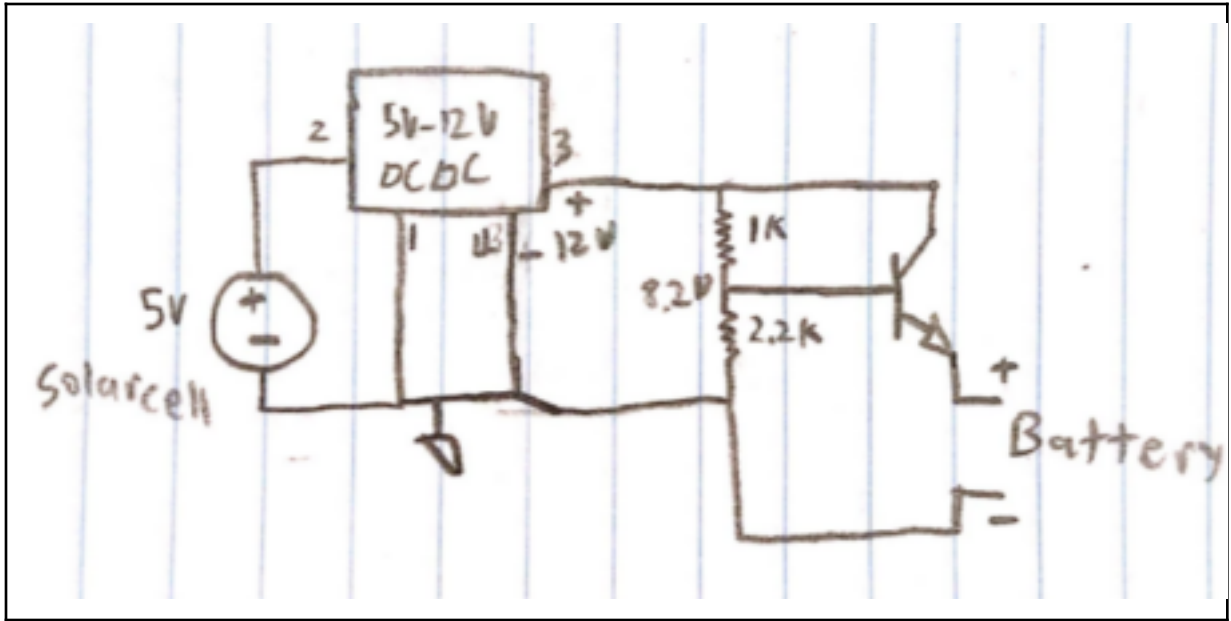

Figure 5
2. Jack designed a charge controller to overcome the issue with the current DC converter, this charge controller can be seen in figure 5.